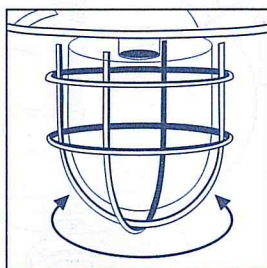

Figure 6
- For screw on glass fixtures, unscrew glass counter-clock wise, insert bulb(s) and screw glass back on (see figure 6 & 7).